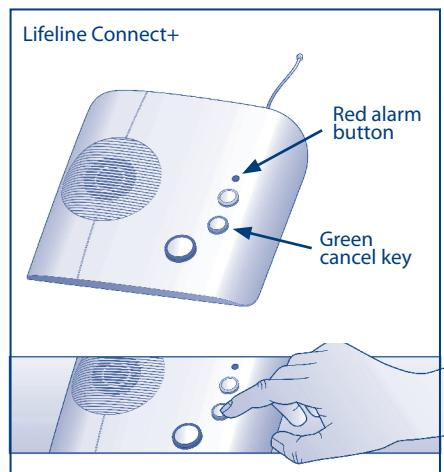

Figure 4
- i) Press and hold down the green cancel key located on the Lifeline unit (see fig 4) until it beeps (approx. 5 seconds), then release the green cancel key and the LifeLine unit will bleep twice. The red alarm button will flash slowly.
- v) Make a test call using the programmed telecare-enabled battery (see fig 4) by pressing its red button and ensure it raises an alarm call.